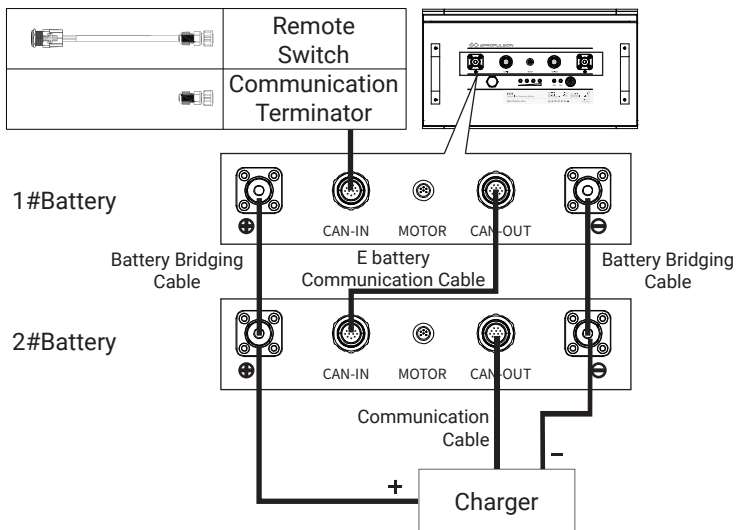

Figure 2-7
**⚠** When charging parallel batteries, the charger should connect to a battery whose CAN-OUT port is not connect with the E battery communication cable (refer to the 2# battery in figure 2-7).